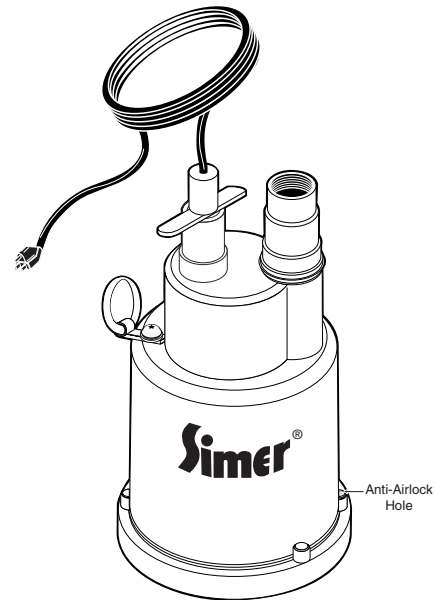

Figure 1
3. This pump has an anti-airlock hole (see Figure 1). Keep it clean for proper operation.